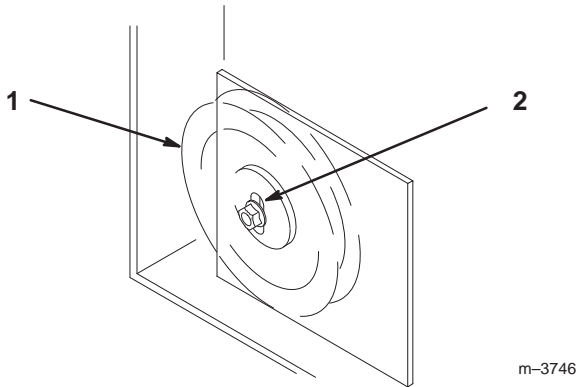

**Figure 65**
9. If the fixed idler contacts the end of the adjustment slot and more belt tension is required, a small change to lengthen the push arms can be made (Fig. 65).